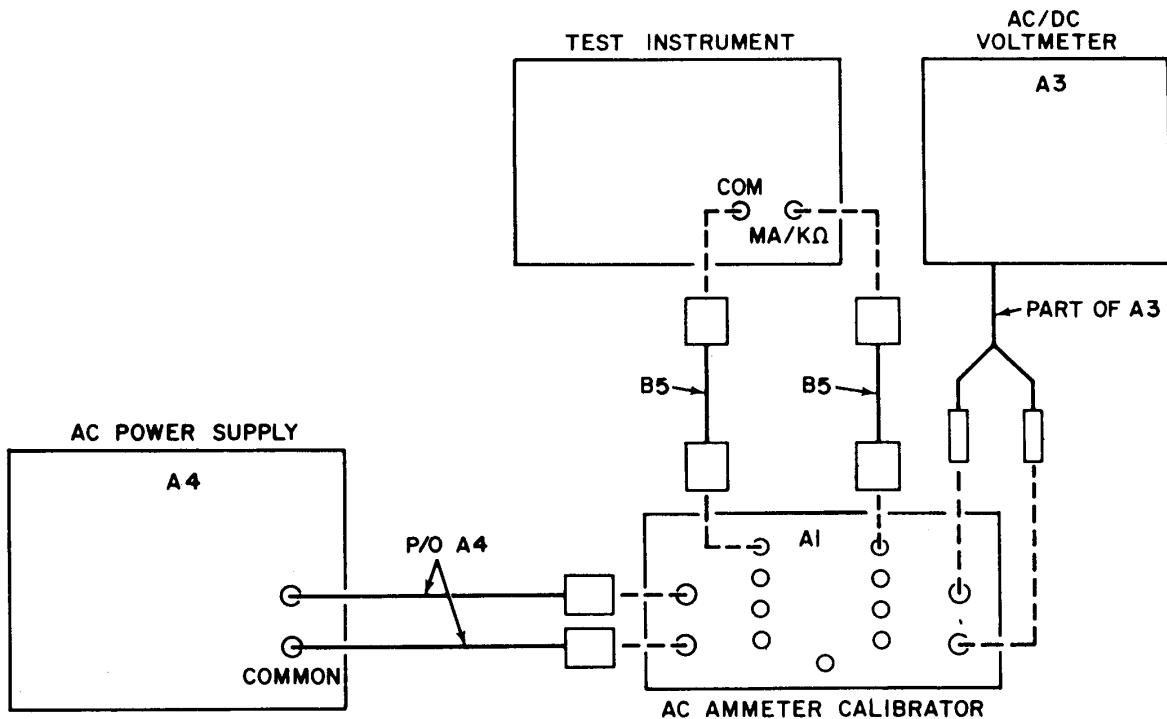

Figure 9. High ac current equipment setup.
- (2) Press TI .2 range pushbutton and simultaneously press AC and MA function pushbuttons.
- (3) Adjust decade resistance standard (A8) to 5000  $\Omega$ .
- (4) Adjust frequency of power supply (A4) to 1000 Hz and voltage to obtain an indication of 199.9 on TI. Ac/dc voltmeter (A3) will indicate between 0.9895 and 1.0095 V ac.
- (5) Repeat (4) above for frequency of 50 Hz, 5 kHz, and 10 kHz.
- (6) Press TI 2 range pushbutton and adjust decade resistance standard to 500  $\Omega$ .
- (7) Adjust frequency of ac power supply to 1000 Hz and output to an indication of 1.999 on TI. Ac/dc voltmeter will indicate between 0.9895 and 1.0095 V ac.
- (8) Repeat (1) above for frequencies of 50 Hz, 5 MHz, and 10 kHz.
- (9) Connect equipment as shown in figure 9.